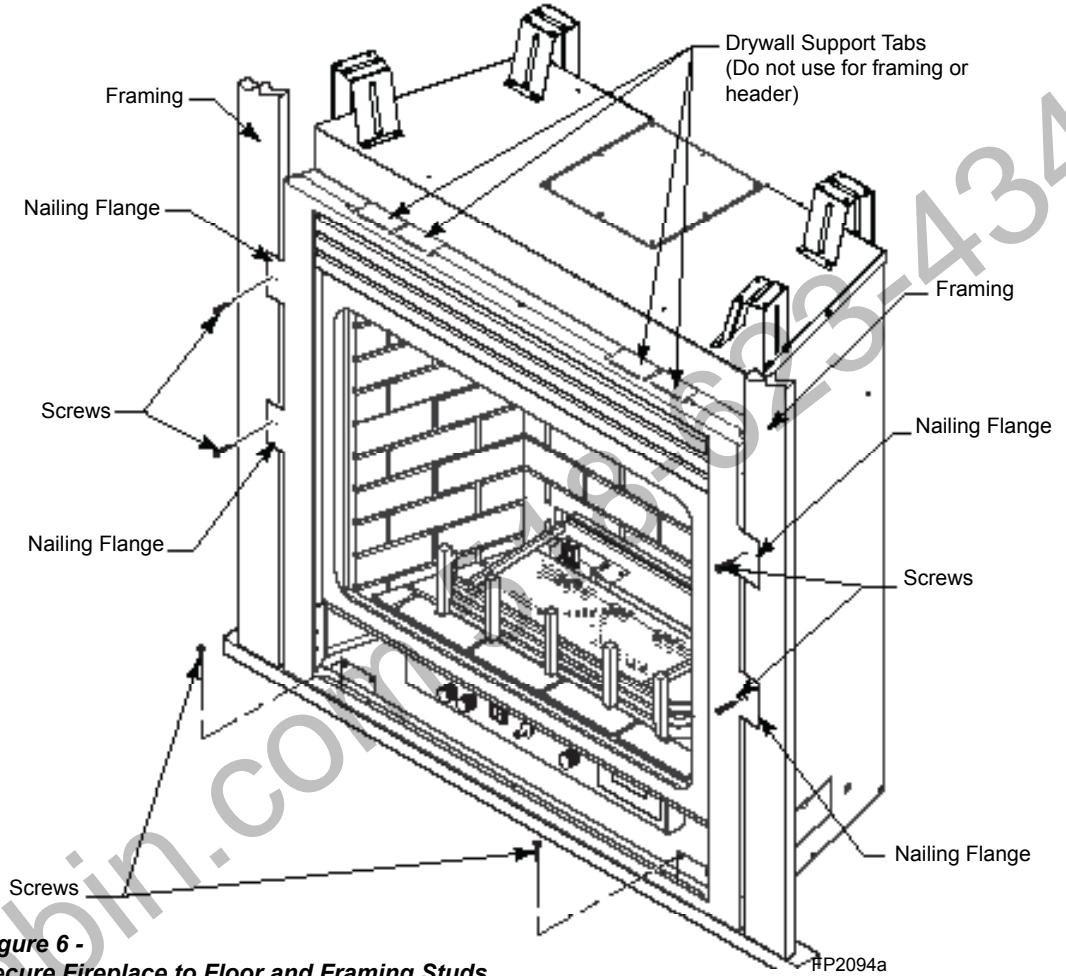

Figure 6 - Secure Fireplace to Floor and Framing Studs
Firebox framing can be built before or after the appliance is set in place. Construct firebox framing following *Figure 6 (page 8)* for specific installation requirements and for firebox dimensions. The framing headers may rest on the top of the firebox standoffs. Do not bring headers below top of standoffs.
The fireplace must be secured to the floor and/or to framing studs as shown in *Figure 6*. Use two (2) wood screws or masonry/ concrete screws to secure fireplace to the floor. Use four (4) screws to attach fireplace to framing. The side nailing flanges are 1/2" or 5/8" to accommodate different wall thickness.